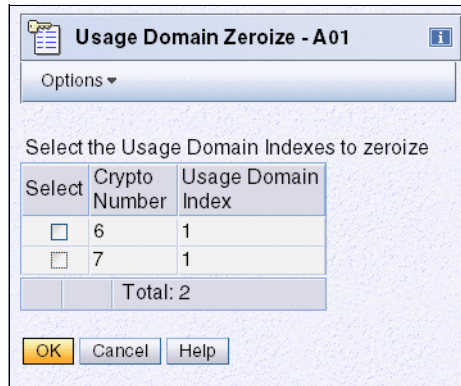

Figure 8-17 SE - Change LPAR Cryptographic Controls
- When you only remove the definition of the cryptographic lists, the zeroize panel appears; see Figure 8-17 on page 352. Remove the check to zeroize each crypto number, then click **OK**.